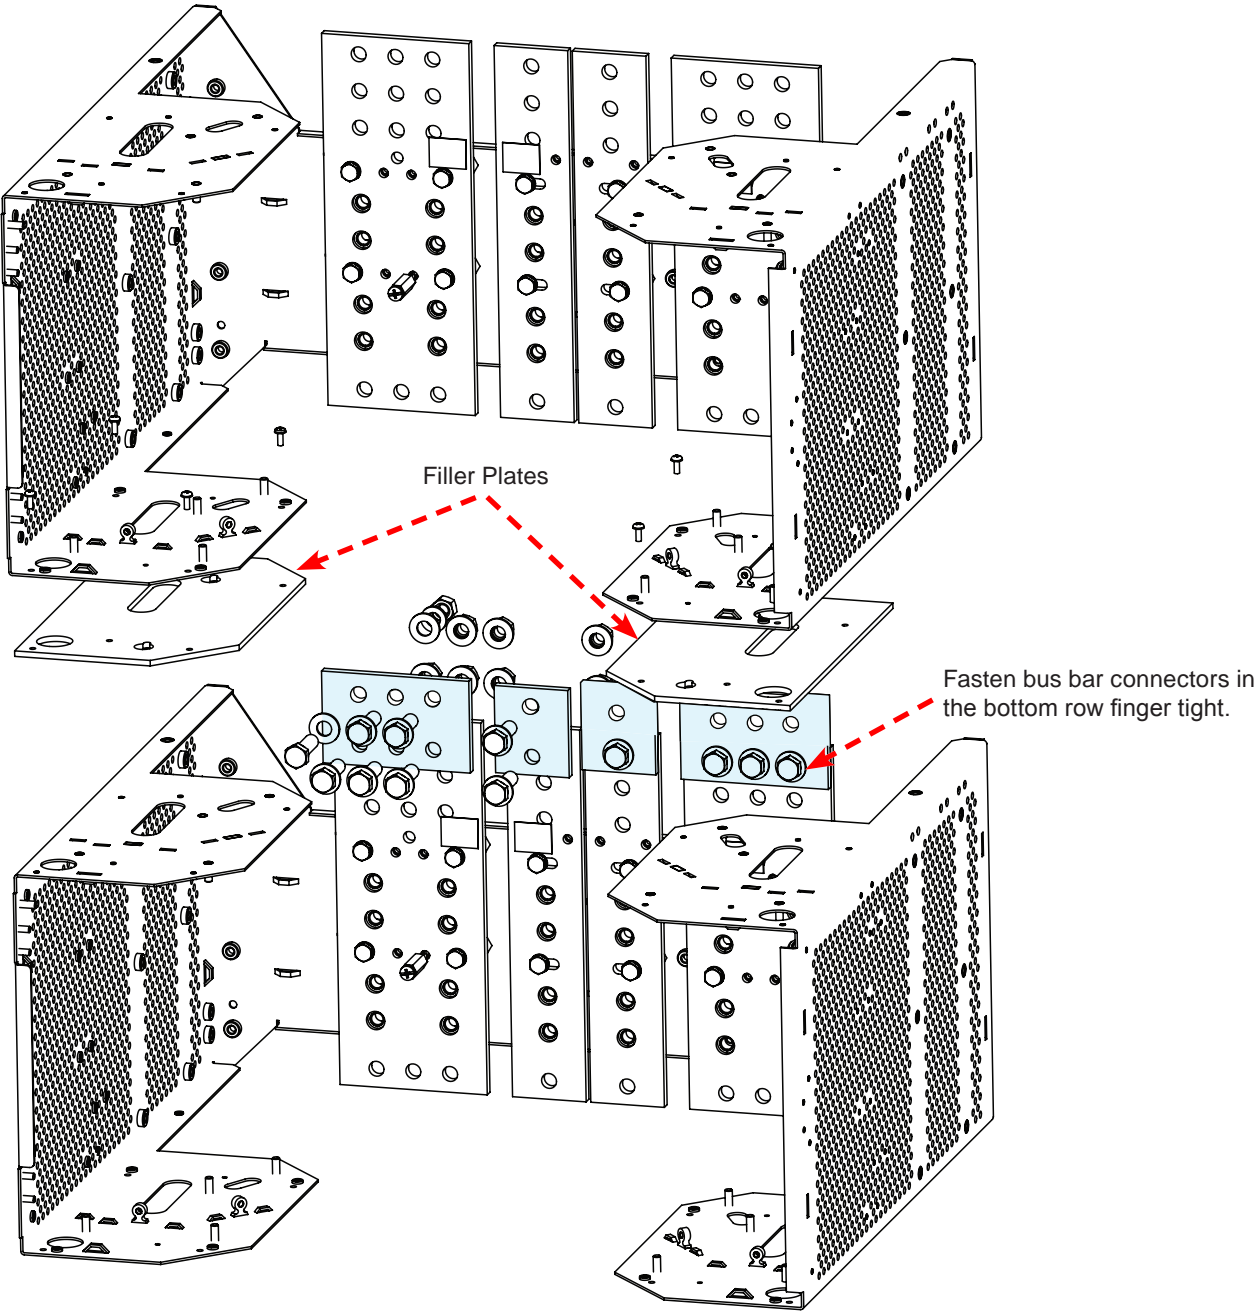

Figure 20 — Alignment of filler plates and bus bar connectors
- Use bolts in the BOTTOM row of the bus bar connectors (Figure 20) to attach them to the BDFB.
- Place the filler plates as shown in Figure 20.